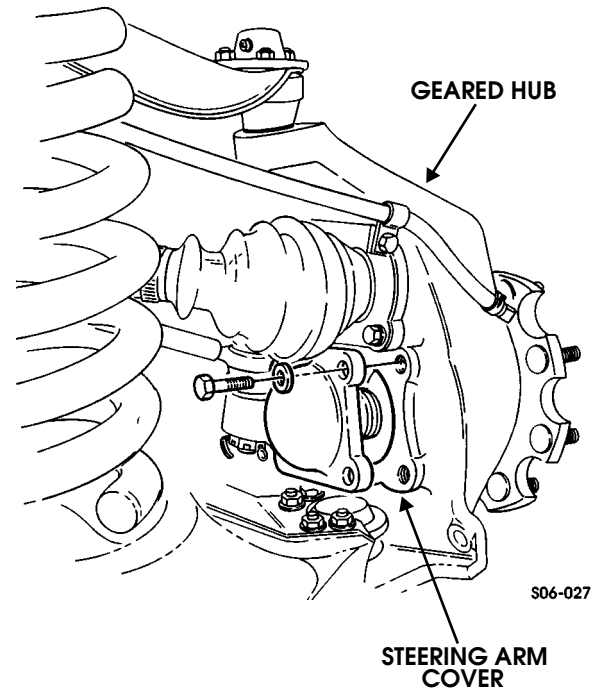

Figure 9-41: Steering Arm Cover Installation
3. Remove four bolts, washers, and steering arm cover from geared hub. Push steering arm cover away from geared hub (Figure 9-41).
16. Clean sealing surfaces on geared hub and steering arm cover. Apply anaerobic sealant to steering arm cover and install on geared hub (Figure 9-41).